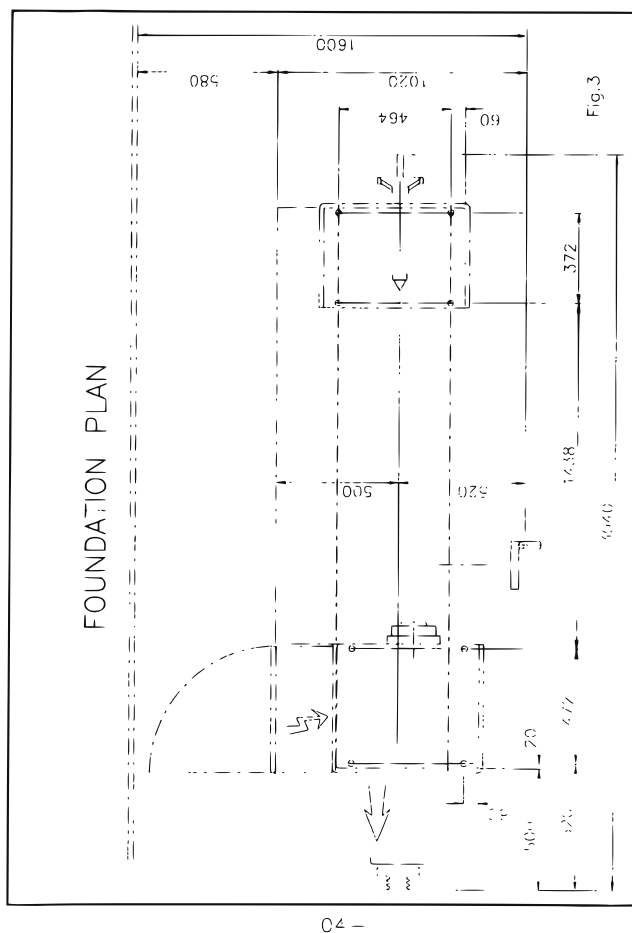

Figure 3-1: Foundation plan
Install the lathe on a solid foundation laid out as shown in Figure 3-1.
- 1 Locate the machine on a solid foundation laid out according to the foundation plan (Figure 3-1). The lathe can be free-standing or bolted to the foundation.
- 4 Fixed installation: position the lathe over eight bolts set into the foundation to match the holes in the mounting feet. The dimensions are shown on the foundation plan (Figure 3-1).